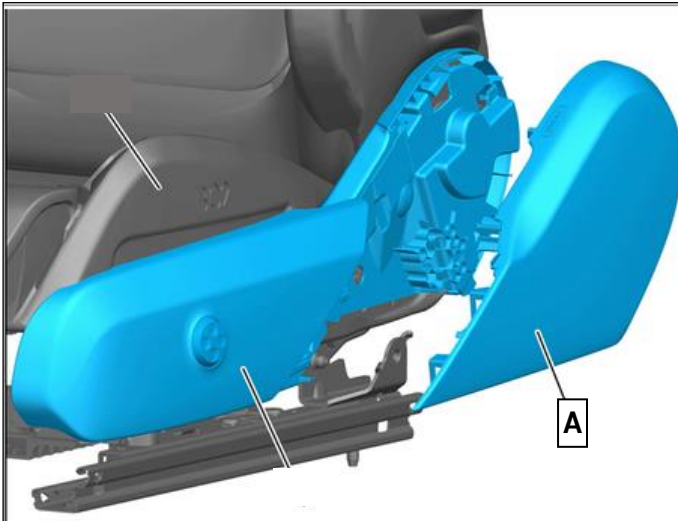

Figure 1
1. Remove the outer seat trim from the driver seat (**Figure 1, A**).
NOTE: Only the trim (**Figure 1, A**) needs to be removed!